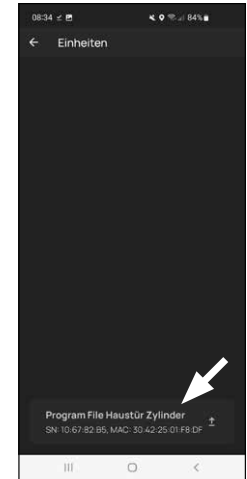

Fig. 7
- 7 To transfer the cylinder data, tap on "Program File <Cylinder name>" (In this example "Front door cylinder") (Fig. 7).